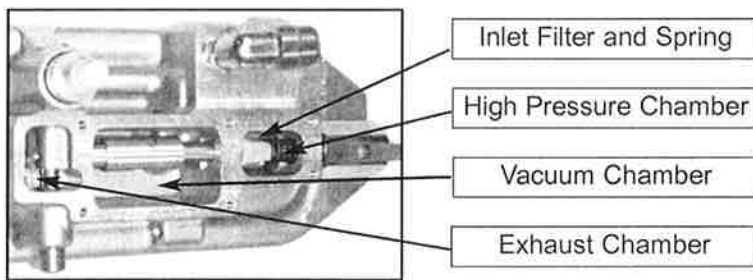

Figure 3b
2. Remove red handle from top of vacuum chamber by removing the 6 x 4mm screws. This will expose the three chambers. The first chamber at the inlet tap end is the high pressure chamber. The second chamber is the vacuum chamber and the third chamber is the exhaust chamber. The inlet filter is located before the high pressure chamber. **See Figure 3b.**
3. To remove and clean the sintered filter, remove the red handle on/off pressure knob from the inlet fitting, and unscrew the inlet fitting from the base. This will allow the internal spring and sintered filter to be removed and cleaned. **See Figure 3b.** If filter is damaged, replace with Part No. 997.